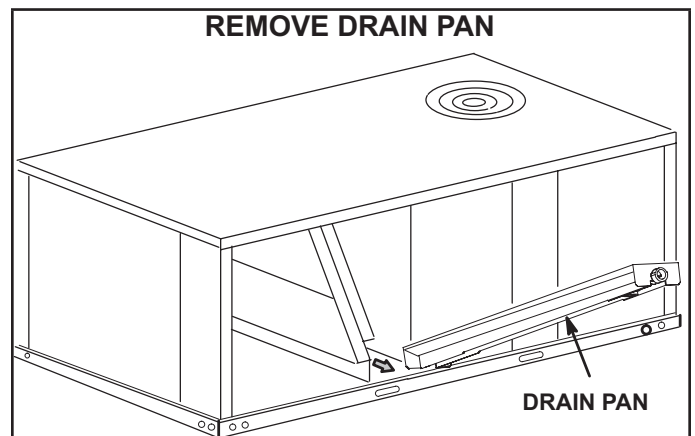

FIGURE 10
- 2 - Lift the front edge of the drain pan and slide pan out of unit. See FIGURE 10.